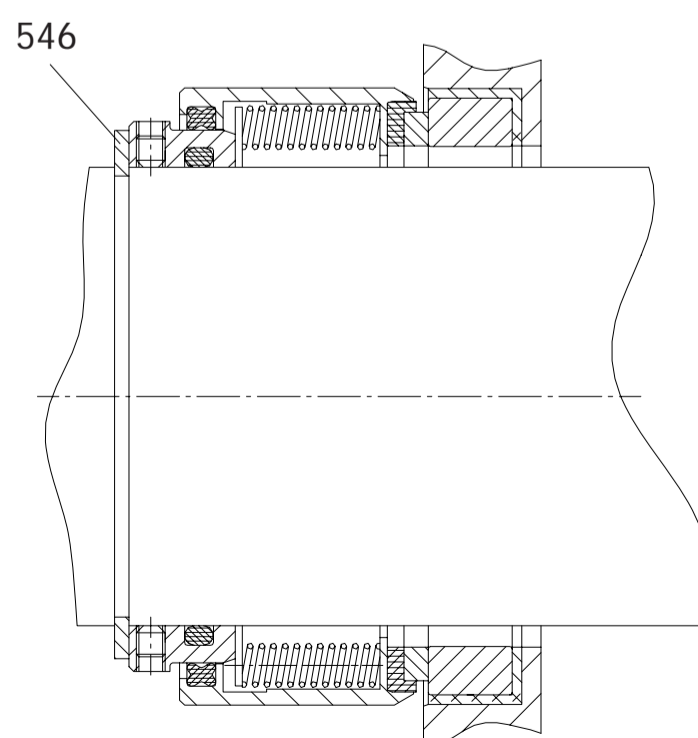

Fig. 19
d) Stainless-steel-shroud seal - type "X" (Fig. 19)